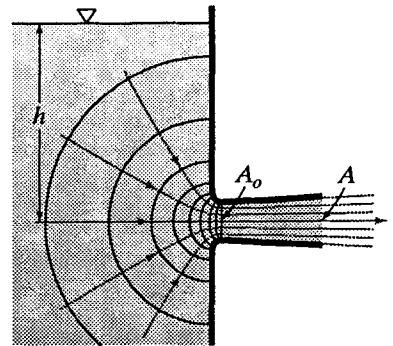

Figure X11.6.5
- 11.6.8 Given that the diverging tube shown in Fig. X11.6.5 has $A = 1.75A_o$. Find the throat velocity and pressure head when $h = 3$ m of water. Neglect all friction losses.